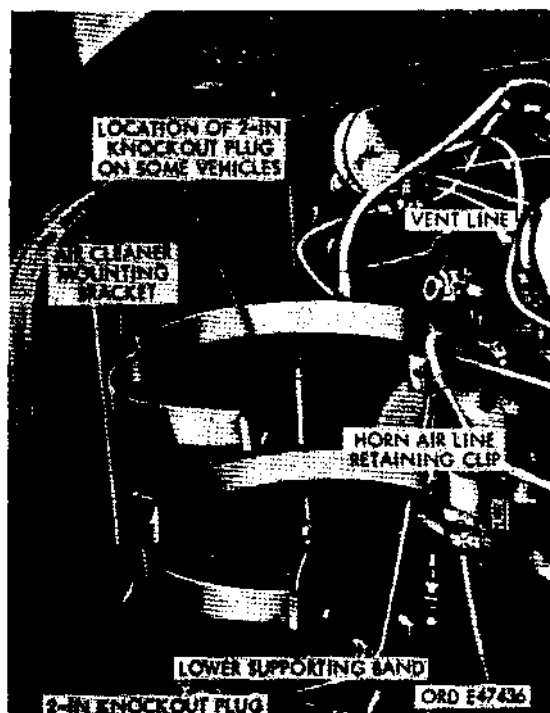

Figure 647. Location of 2-inch knockout plugs on right side of firewall
- (a) Check the location of the 2-inch knock-out plug on the right-hand side of the firewall. If the plug is in the lower right corner, near the lower supporting band (fig. 647), proceed as in (b) below; if the plug is between the air cleaner mounting brackets (fig. 647), proceed as in (c) below.